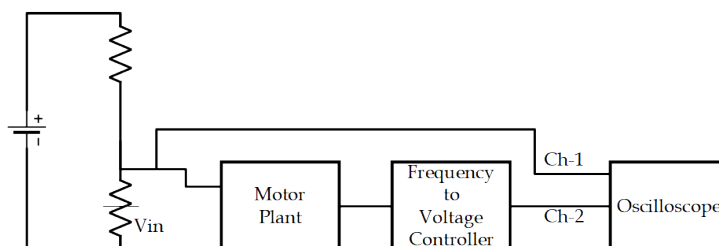

Figure 1: Circuit diagram for open-loop speed control of a DC motor.
3. Make circuitry as shown in Figure 1 for the implementation of open-loop speed control of a DC motor.